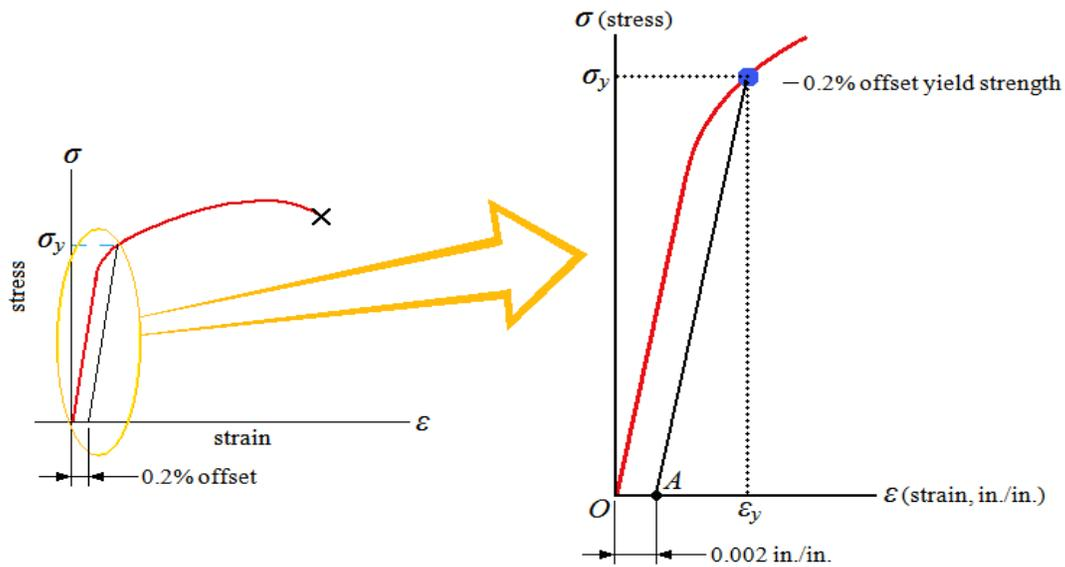

Figure 1
- 2. However, if the above method cannot be determined due to errors during the testing, the yield strength is determined by the .2% offset method using the autographic stress-strain curve drawn. The yield strength is determined from a line at .2% offset on the strain axis that is drawn parallel to the stress-strain curve. The yield strength is the point where the parallel line intersects the stress-strain curve as seen in figure 1.